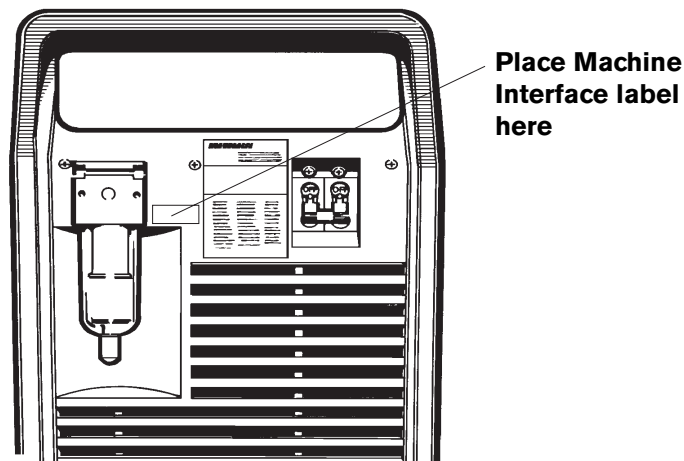

Figure 13 - Machine Interface Label Placement
25. Place Machine Interface label as shown in Fig. 13.